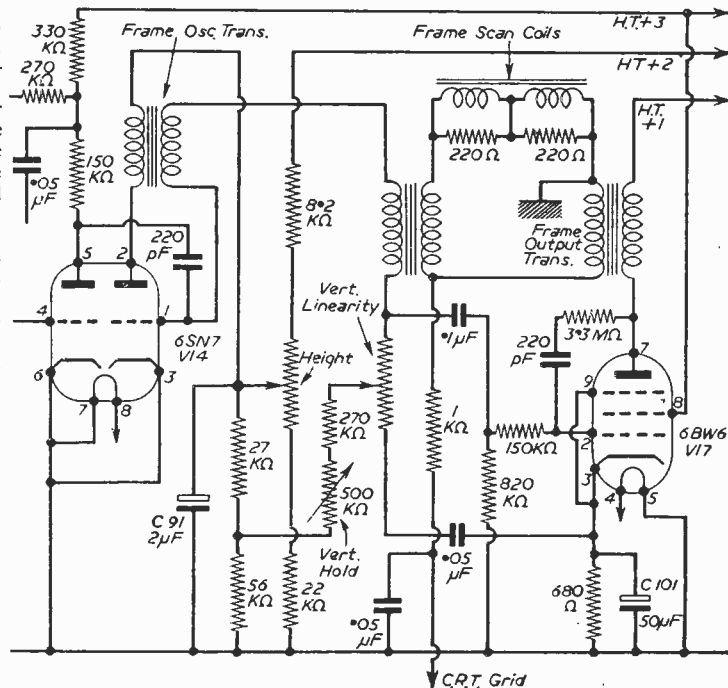

Fig. 1.—The frame timebase.
*Fault condition:* Sound, no vision signal, raster O.K. Check valves V4, V6 and V8, then the H.T. feed to these and then the GD3 vision detector crystal diode situated in the final I.F. coil can as indicated in Fig. 1.